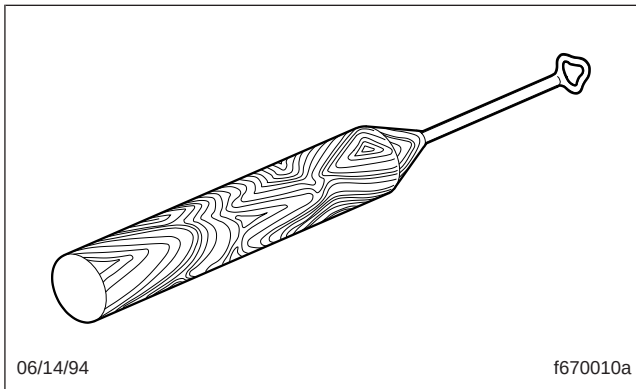
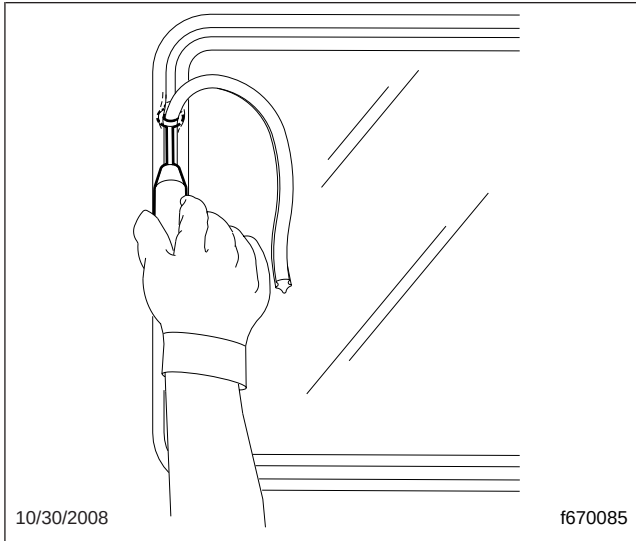

Fig. 7, Typical Bead Spreader
Fig. 8, Inserting Lockstrip Using Bead Spreader
19. Using a bead spreader, install a new perimeter seal lockstrip; see Fig. 7 and Fig. 8. Insert the